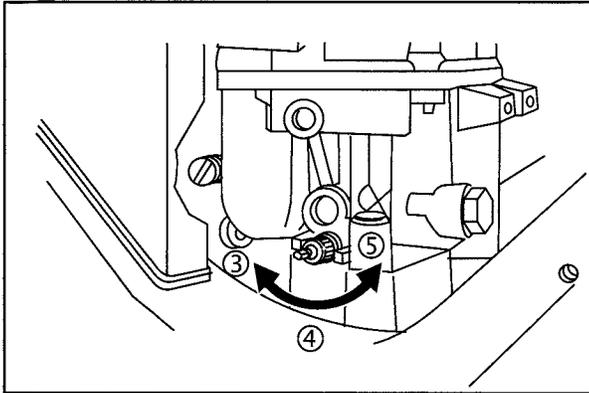

Fig. 16
4. Turn idle mixture screw slowly **CLOCKWISE** (3) until engine speed just starts to slow (**LEAN** mixture), Fig. 16.
5. Then turn idle mixture valve **COUNTERCLOCKWISE** (5) until engine speed just starts to slow (**RICH** mixture).
6. Turn valve to mid point (4) between **RICH** and **LEAN**.